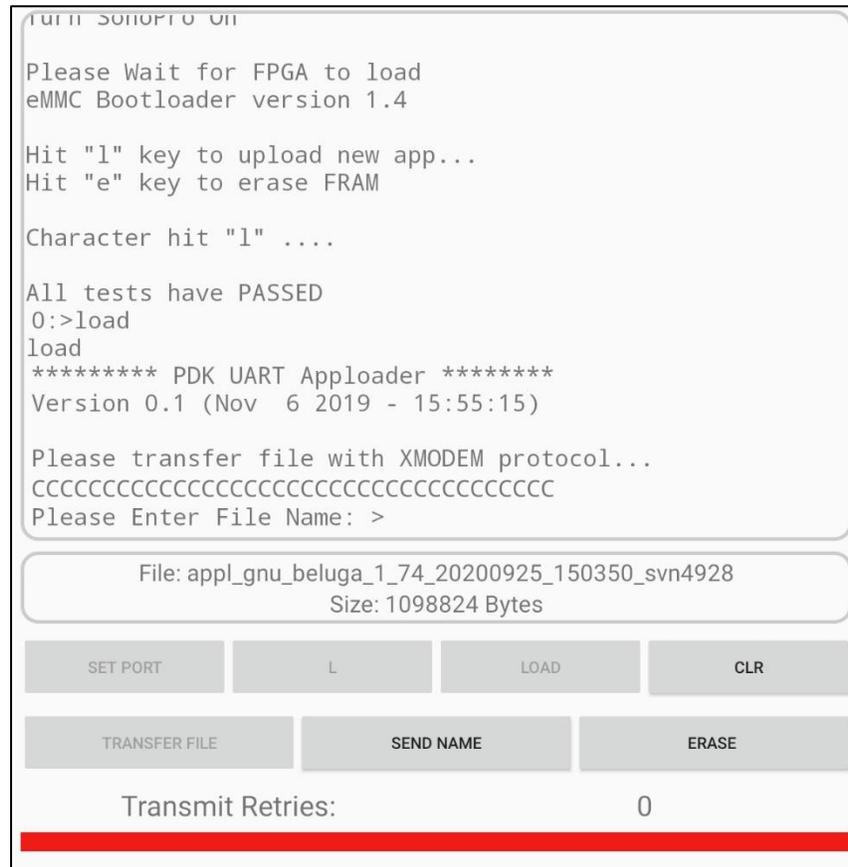

Figure 31: File Naming
- At this time, the “TRANSFER FILE” button can be pressed to send the file over to the SonoPro. Progress is shown in the bar below the buttons. If there are no transmit retries logged at the end of the file transfer, the dialog will then ask for the file name as shown in Figure 31.
In the event of a transmit failure, the App will indicate this instead of asking for the file name as shown in Figure 31. The transfer can be made again by turning the SonoPro off, clicking the CLR button and starting the bootloader process over.